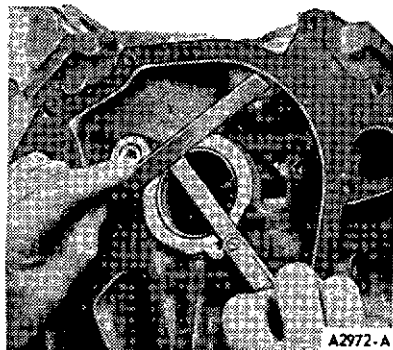

FIG. 59 Measuring Depth of Camshaft Front Bearing
**Failure to use correct expanding collet can cause severe bearing damage.** Align oil holes in bearings with oil holes in cylinder block before pressing them into block. Be sure front bearing is installed specified distance below front face of cylinder block (Figure 59).